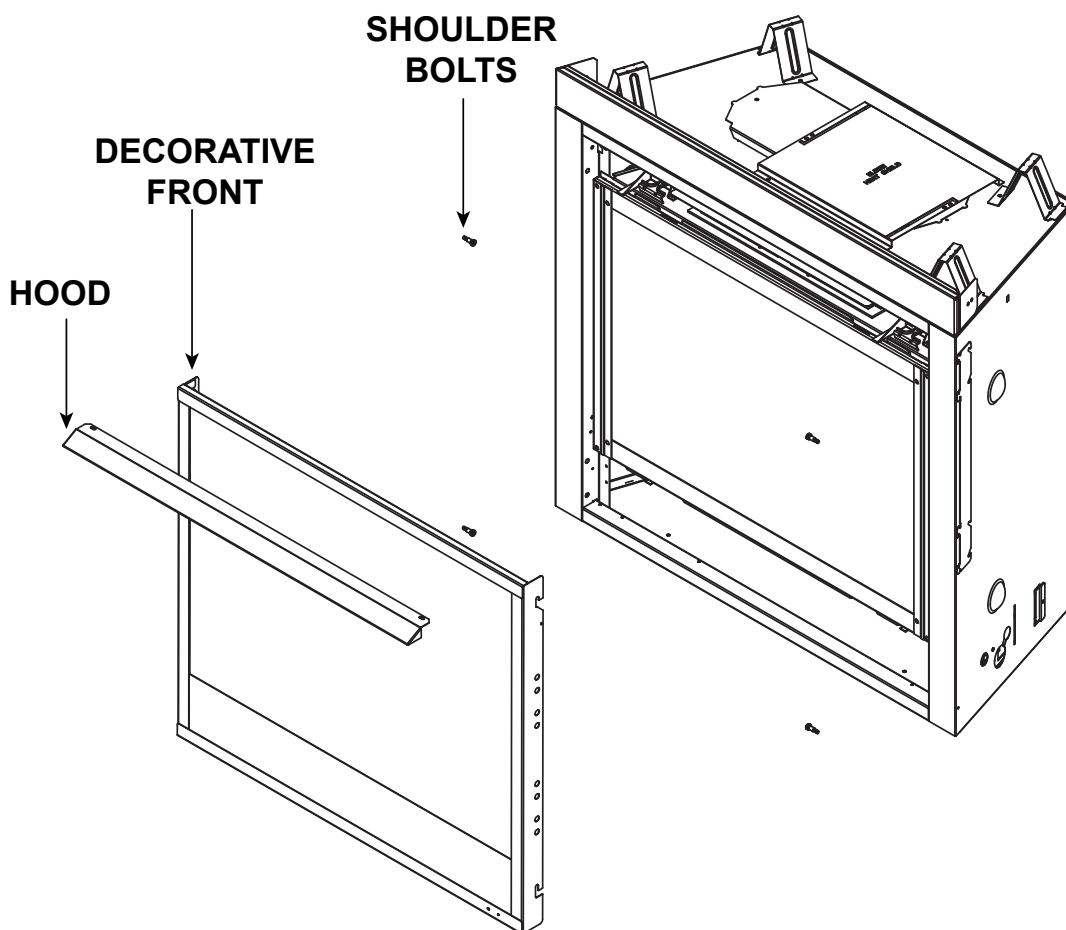

Figure 11.3 Install Majestic Decorative Barrier front and Angled Hood
2. Remove four shoulder bolts from manual bag assembly and install as shown in Figure 11.3.
4. Install hood on appliance by inserting into the two hood clips. See Figure 11.3.